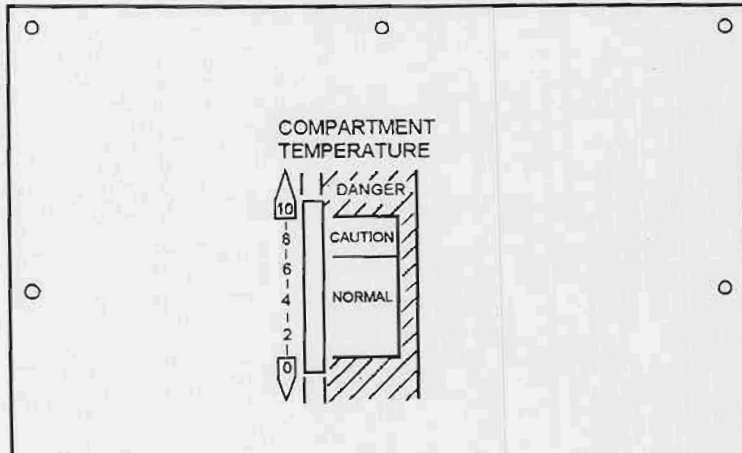

Figure 2-4. Compartment temperature thermometer.
(6) *Connection to AC voltage.* For AC operation, the power supply is plugged into an AC line. Check and set correct voltage of the power supply before connecting the refrigerator. When correctly connected and powered, the green power indicator on the control panel will light, and the refrigerator will be in operation. The compartment temperature (fig 2-4) will be indicated by the color coded, solid state thermometer changing from